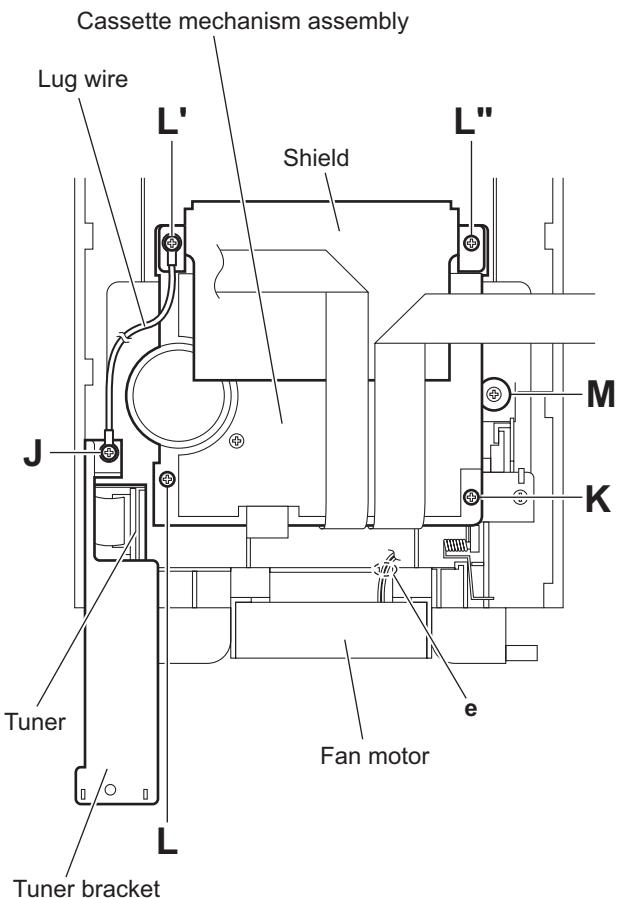

Fig.10
When attaching the fan motor, pass the wire through the slot **e**. (See Fig.10.)
- (2) From the inside of the top cover assembly, remove the screw **J** attaching the tuner bracket. (See Fig.10.)
- (3) Take out the tuner with the tuner bracket.
- (4) Remove the tuner from the tuner bracket.
(See Fig.10)